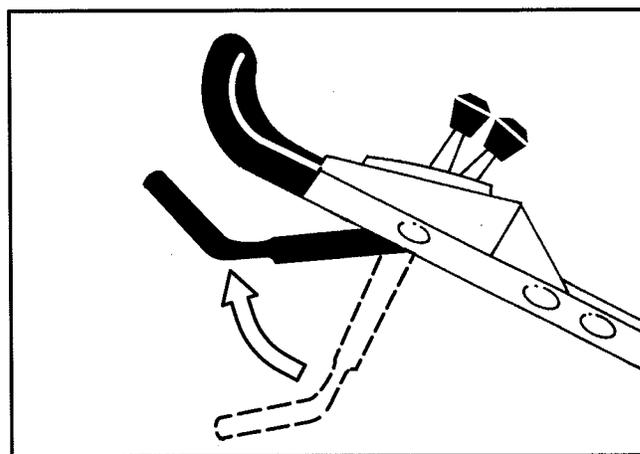

Figure 16
3. Slowly lift the control bar to a point where the bag just begins to inflate (about 5 inches below the handle cross bar) (Fig. 16). This indicates that the mower blade is engaged and has begun to rotate.